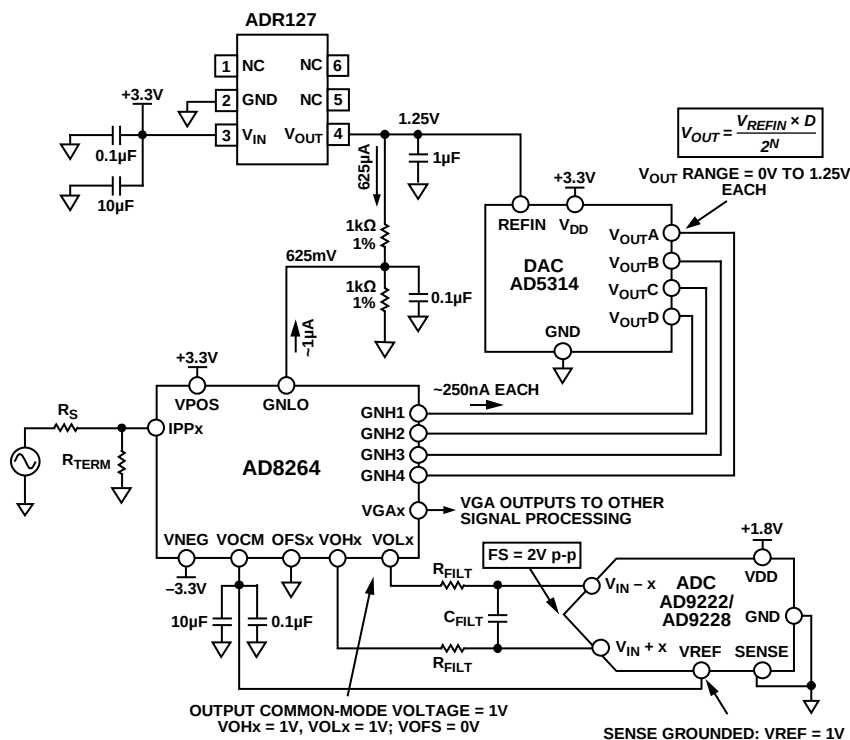
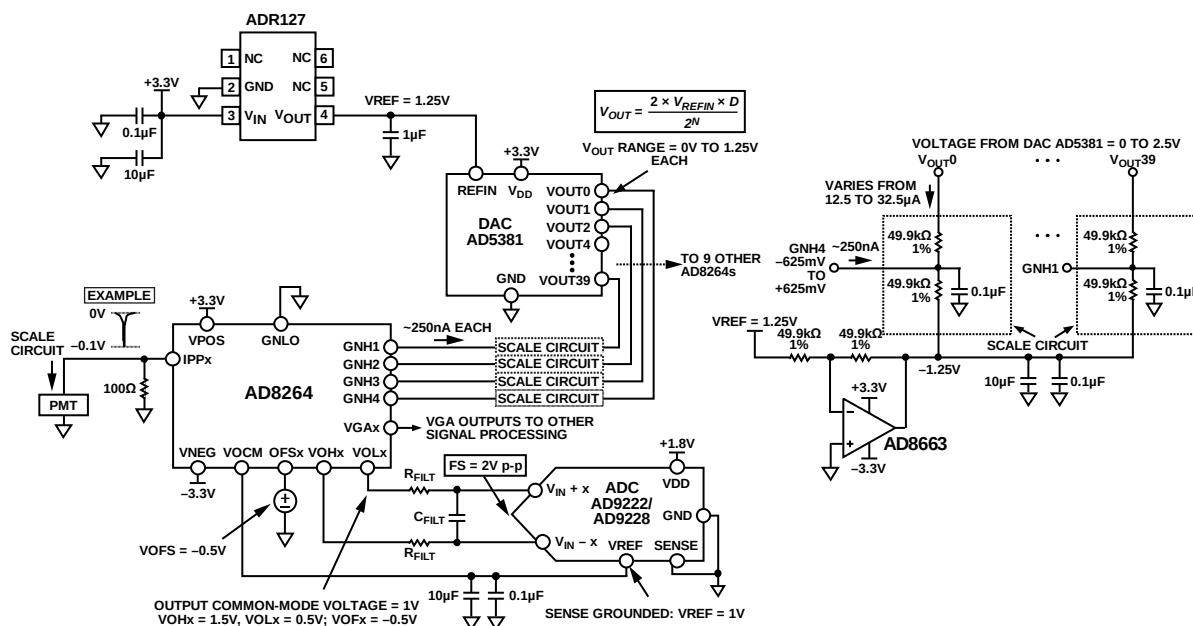

Figure 112. Application Concept of the AD8264 with the AD5314 10-Bit DAC and the AD9222/AD9228 12-Bit ADC
Figure 113. Concept Application of AD8264 with 40-Channel AD5381 12-Bit, 3 V DAC and AD9222/AD9228 12-Bit ADC
The AD8264 is particularly well suited for use in the analog front end of medical PET imaging systems. Figure 112 shows how the AD8264 may be used with the AD5314 (a 4-channel, 10-bit DAC) and the AD9222/AD9228 (an octal or quad, 12-bit ADC, respectively). The DAC sets the gain of the AD8264. Note that the full gain span of 24 dB is achieved with this setup because the gain control input range of the AD8264 is very close to 1.25 V. The GNLO pin must offset by $1.25/2 = 625$ mV because the gain control input is bipolar around the voltage applied at GNLO. This is done with two 1 k Ω , 1% resistors. The approximately 1 μ A of bias current flowing from the GNLO pin does not contribute a significant error because the basic gain error of the AD8264 is the limiting factor.
Figure 112 also includes the DAC output equation, which indicates that the output can vary between 0 V and $V_{\text{REF}} = 1.25$ V.
The single-ended-to-differential amplifier of the AD8264 amplifies the VGA output signal by 6 dB and can provide the required dc bias of the AD9222/AD9228, as shown in Figure 112. The ADC is connected with the default internal reference because the SENSE pin is grounded. With this connection, the AD9222/AD9228 V_{REF} pin is an output that provides 1 V; this is then connected to the V_{OCM} input of the AD8264, which sets the output common-mode voltage of the V_{OHx} and V_{OLx} pins to 1 V. This voltage is very close to the recommended optimal value of $V_{\text{DD}}/2 = 0.9$ V. With this configuration, the ADC inputs are set to a full-scale (FS) of 2 V p-p.
The dc connected concept example in Figure 113 is an application with the 40-channel AD5381, 3 V, 12-bit DAC. The main difference between this example and Figure 112 is that, for the same ADI127 1.25 V reference, the full-scale output of the DAC is from 0 V to $2 \times V_{REFIN} = 2.5$ V. Two options for gain control include the following:
- Use the same circuit as in Figure 112 but use only half the DAC output voltage from 0 V to 1.25 V. This is the simplest solution, requiring the fewest extra components. Note that the overall gain resolution increases by one bit to 11 bits over the 10-bit AD5314.
- Ground GNLO and scale the DAC output so that the GNHx inputs vary from -0.652 V to $+0.625$ V. Figure 113 shows a possible circuit implementation using a divider between the DAC output and a -1.25 V reference.
Figure 113 shows how the AD8264 is connected in a PET application. The PMT generates a negative-going current pulse that results in a voltage pulse at the preamplifier input and a differential output pulse on VOLx and VOHx.
A convenient method of verifying and customizing the signal chains shown in Figure 112 or Figure 113 is by ordering the corresponding evaluation boards available on www.analog.com. The AD8264-EVALZ is a platform through which the user can quickly become familiar with the features and performance capabilities of the AD8264. See the Evaluation Board section for more information.